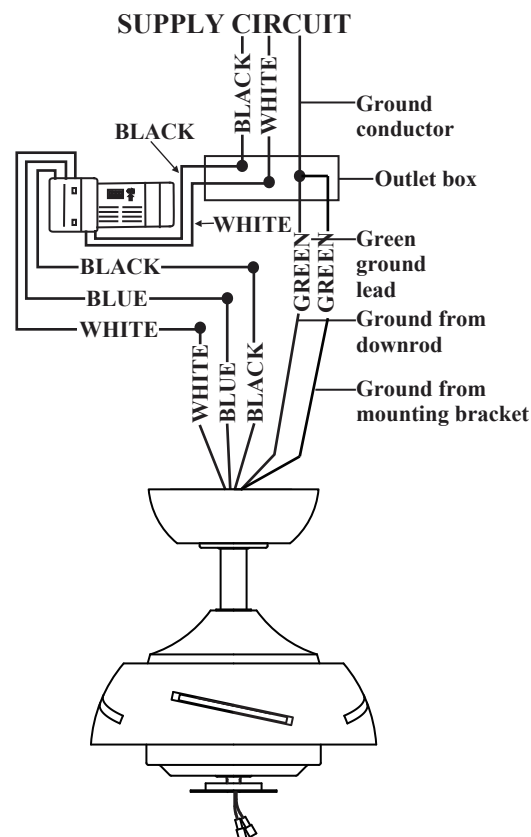

Fig. 9
3. Motor to receiver electrical connections: Connect the black wire from the fan to the black wire marked "To Motor L" from the receiver. Connect the white wire from the fan to the white wire marked "To Motor N" from the receiver. Connect the blue wire from the fan to the blue wire marked "For Light" from the receiver. Secure the wire connections with the plastic wire-connecting nuts provided. (Fig. 9)
4. Receiver to house supply wires electrical connections: Connect the black (hot) wire from the ceiling to the black wire marked "AC in L" from the receiver. Connect the white (neutral) wire from the ceiling to the white wire marked "AC in N" from the receiver. Secure the wire connections with the plastic wire-connecting nuts provided. (Fig. 9)
5. If your outlet box has a ground wire (green or bare copper) connect it to the fan ground wires; otherwise connect the hanging bracket ground wire to the mounting bracket. Secure the wire connection with a plastic wire-connecting nut provided. After connecting the wires spread them apart so that the green and white wires are on one side of the outlet box and black and blue wires are on the other side. Carefully tuck the wire connections up into the outlet box. (Fig. 9)